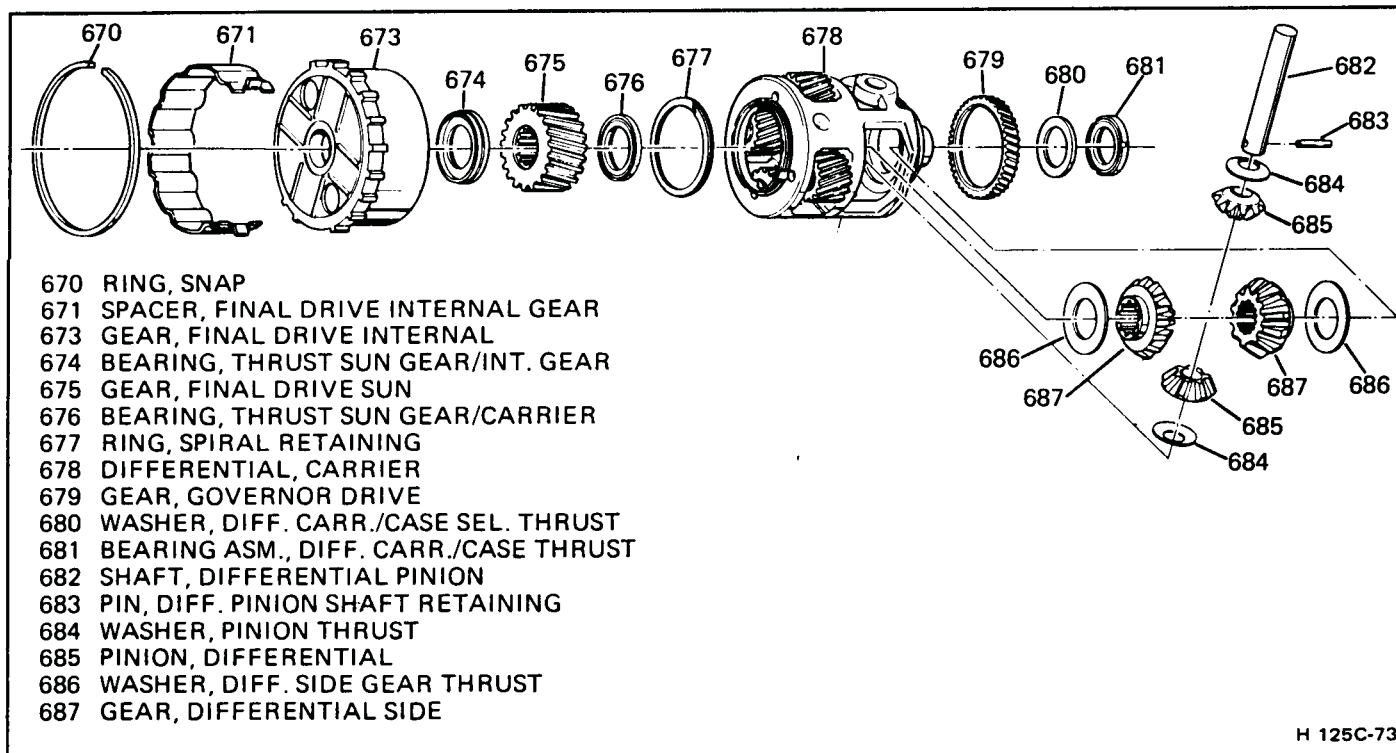

Figure 49 Final Drive Assembly
### Disassemble (Figure 49)
- Governor drive gear (678) with J-8433 – place a thick flat washer or other protection on the hub to avoid damage
**Inspect (Figure 49)**
- Pinions (685) and side gears (687) for damaged teeth
**Disassemble (Figures 49 and 52)**
- Retaining pin (683) use a pin punch as shown
- Pinion shaft (682)
- Pinions (685), side gears (687) and washers (684 and 686)
**Assemble (Figure 49)**
1. Side gears (687) and washer (686) into carrier
2. Pinion thrust washer (684) to pinions (685), retain with petrolatum
4. Pinion shaft (682), slide through both pinions for alignment, then remove.
5. Rotate pinions into position, then replace shaft (682)
6. Retaining pin (683)
1. Thrust bearing (676) into carrier
2. Sun gear (675) stepped side facing up
3. Thrust bearing (674) outside race to internal gear
4. Internal gear (673) onto carrier
2. Thrust bearing (681) onto carrier assembly, inner race toward carrier, retain with petrolatum
- Spacer (671) for damage
- Snap ring (670) for damage
**Install or Connect (Figure 49)**
1. Spacer (671) into the transmission case